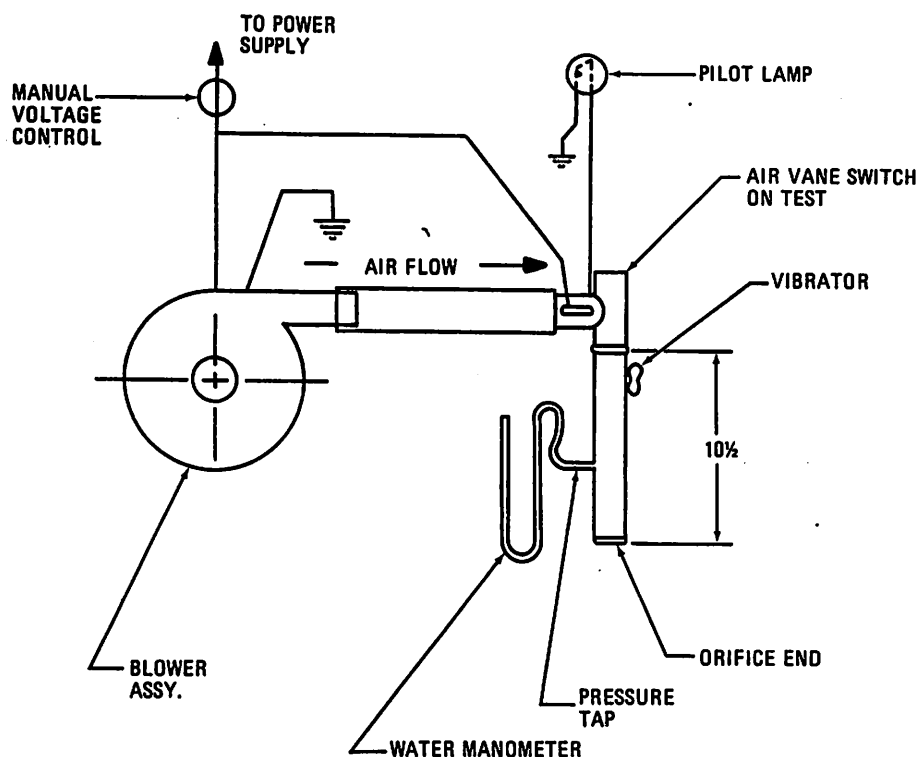

Figure 7-4. Airflow Switch Test Setup
b. Connect the outlet of the blower assembly to the inlet of the air vane switch assembly. Refer to figure 7-4.